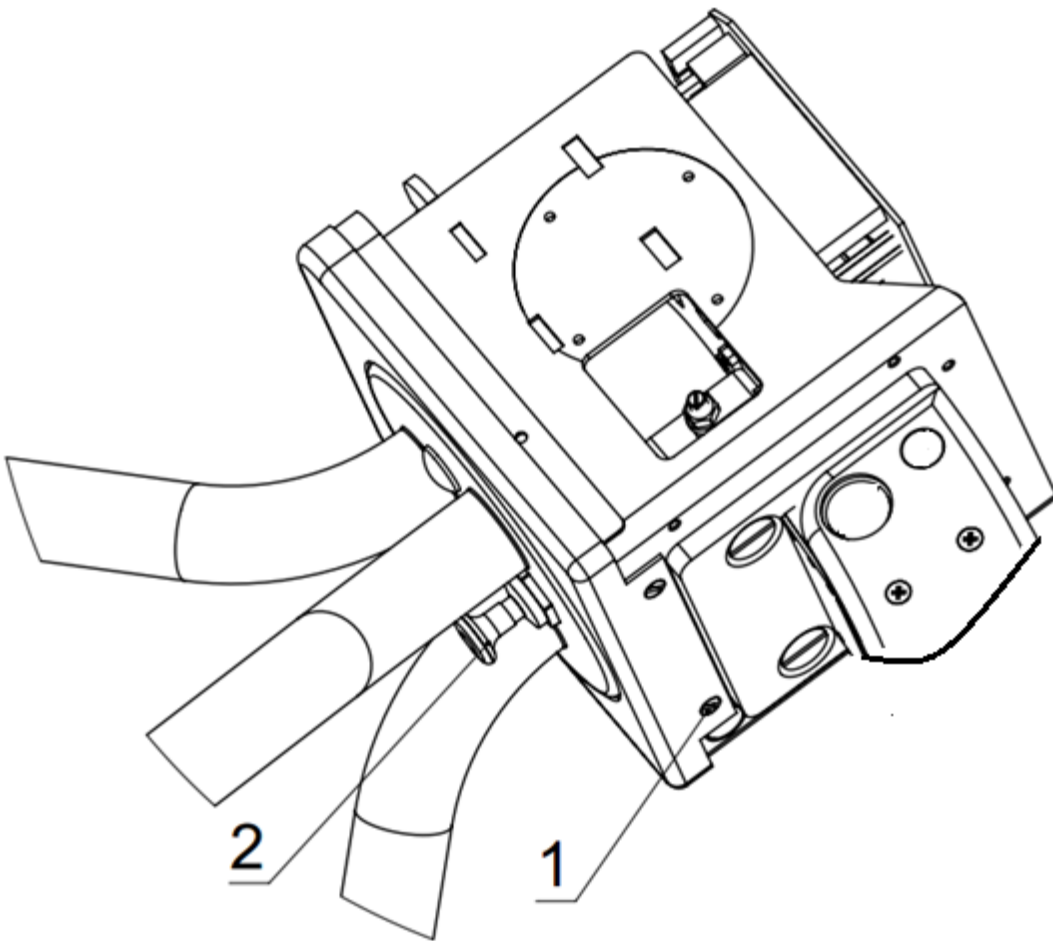
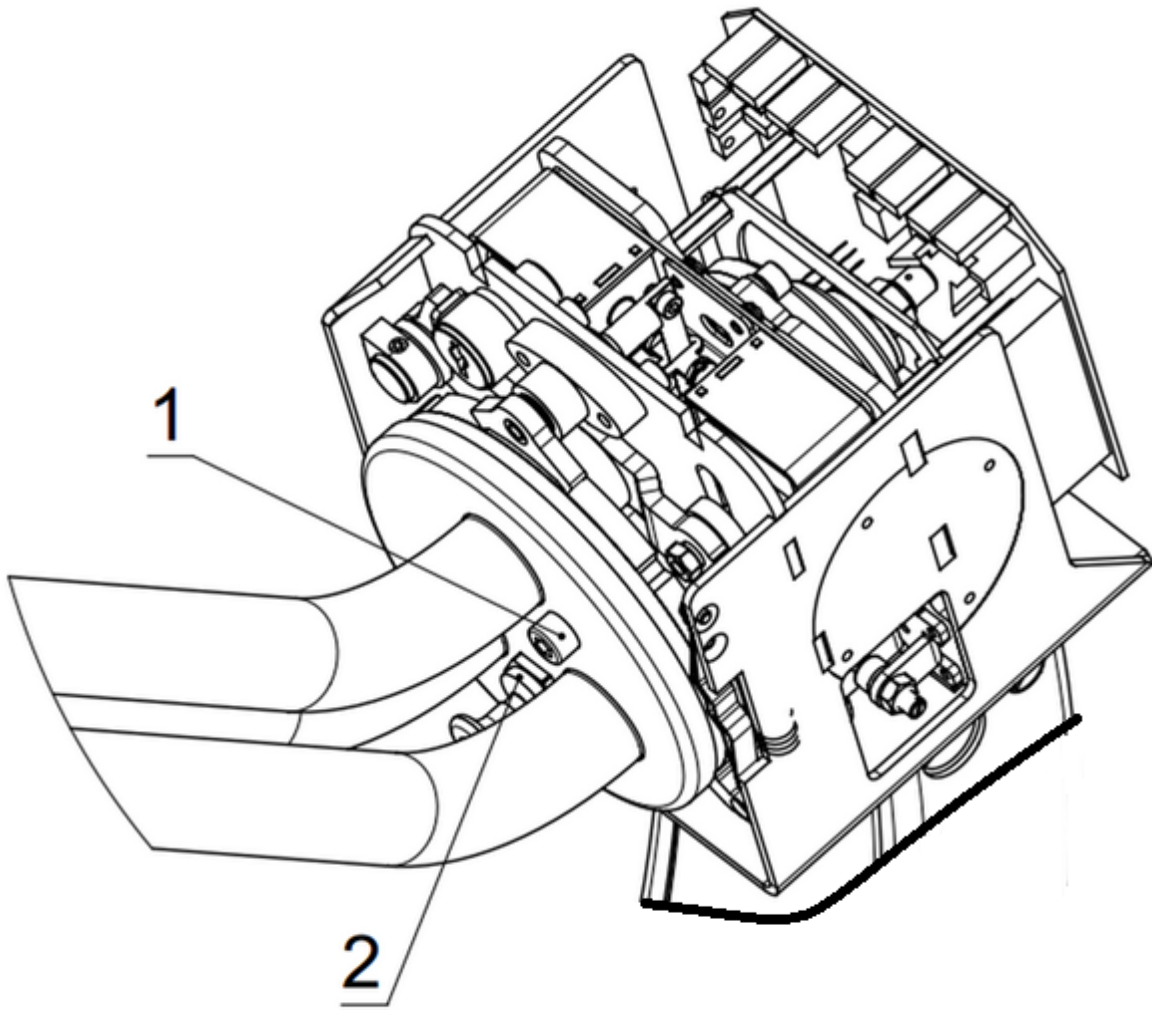
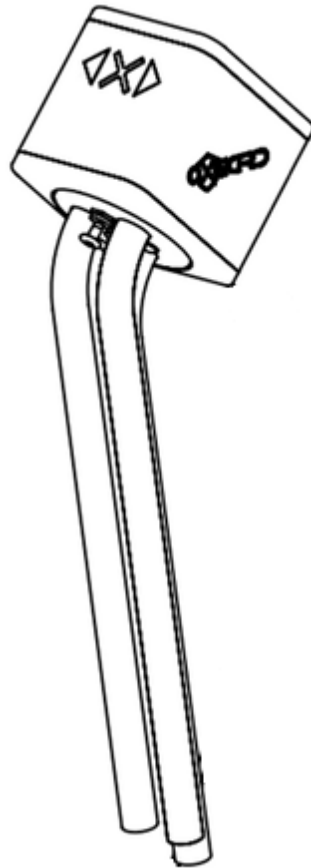

Fig.3.
Fig.4
Fig.5.
Move the backshell up to the end and release an access to the swivel mechanism. The view after removal of the backshell is shown on Fig 3
Fold arms for ease of further work, to achieve this retract fixation lock 2 of the crossbars (Fig.3) and while holding one crossbar in a fixed position rotate the other crossbar by the other hand clockwise so that all the crossbars would align (Fig 4), put folded arms down (Fig 5) .
- 2.3. Loose two screws 1 (Fig.4) M8 with hexagonal key S6